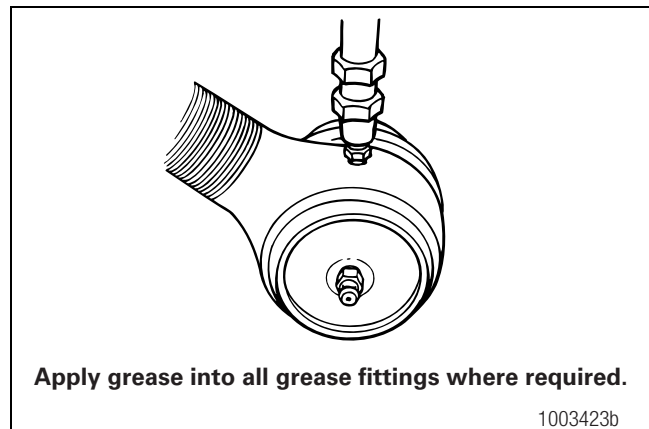

Figure 6.27
4. Attach either a hand or air pressure grease gun to the grease fitting. Figure 6.27. If using air pressure, do not exceed 150 psi (1035 kPa).